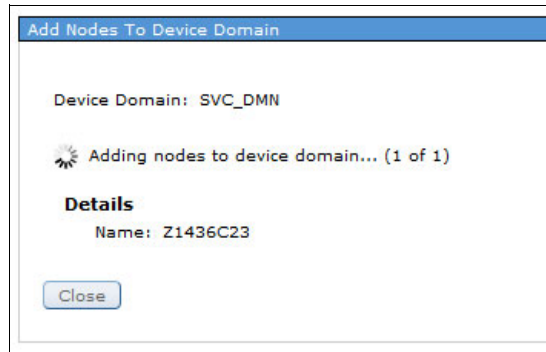

Figure 4-50 Three-node cluster: Status message
11. A status message appears as the node is added to the device domain, as shown in Figure 4-50.